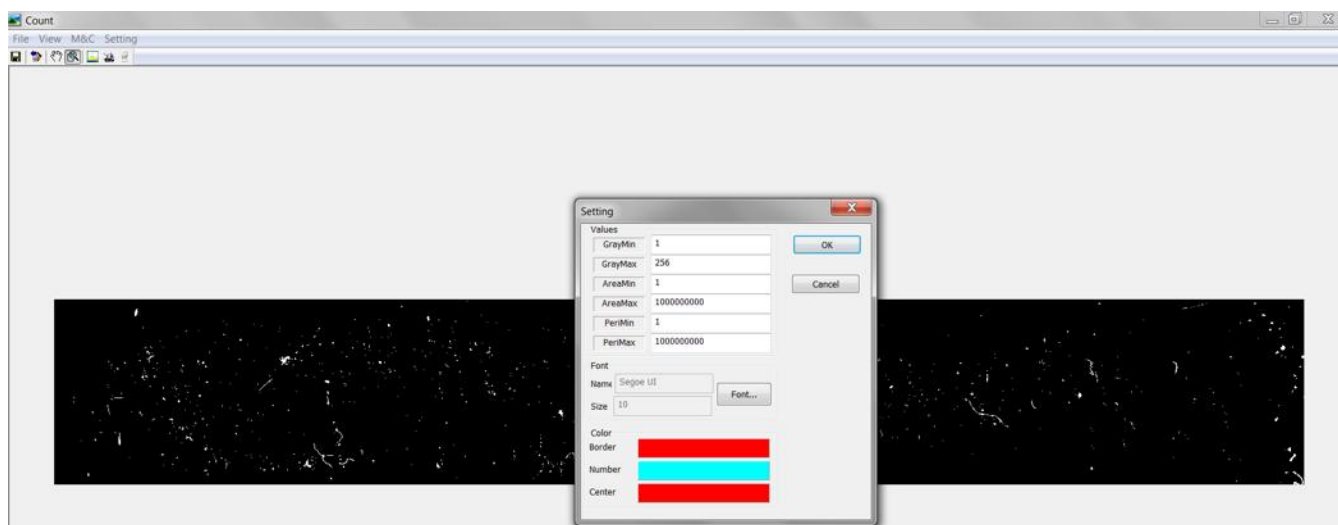

Figure 50. ToupView Count Window and Setting dialog
- 3) Enter the settings defined in Figure 50 and Table 6. The user may select any color for the **Border**, **Number**, and **Center** fields. The gray min and max values determine which pixels will be counted. Since black is equal to 0, the software will count everything else.